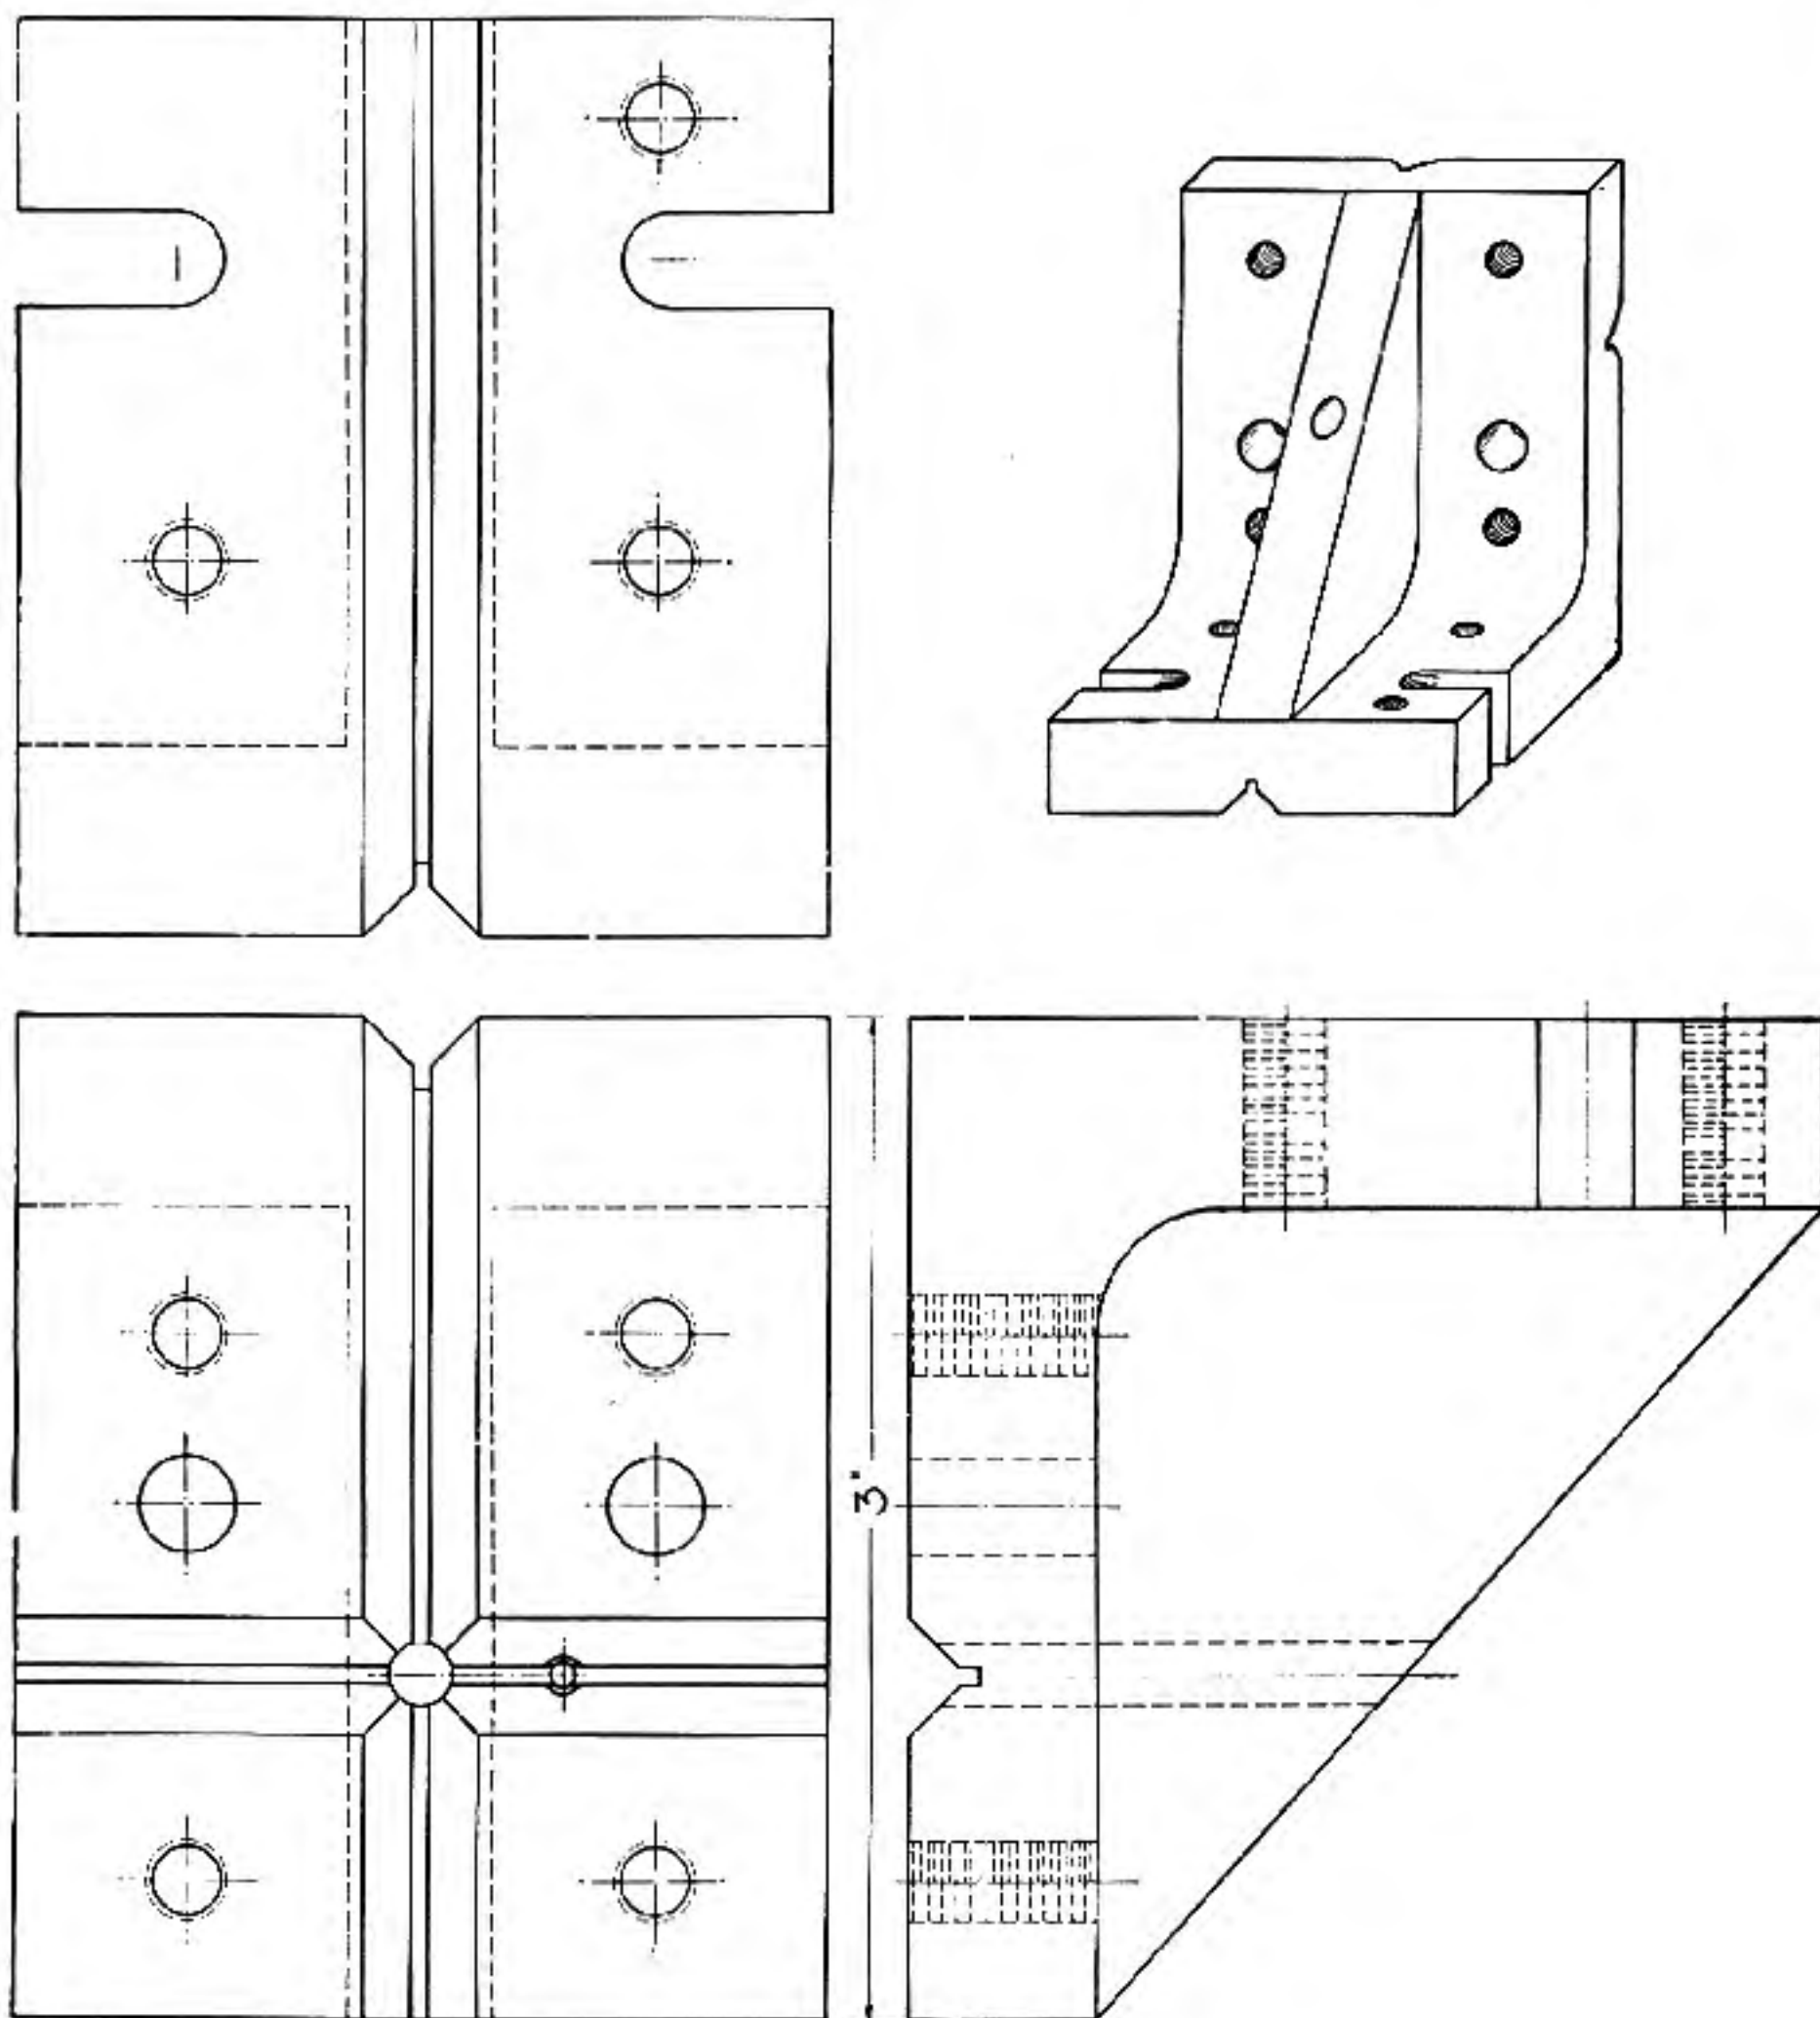

Fig. 1
**Angle Plate**—This is a most useful fixture for clamping parts in laying out work. The most convenient size is one 3 inches in height by  $2\frac{1}{2}$  inches in width. Angle plates can be purchased from hardware or machinery dealers. The best of plates can be made by an advanced student. Figure 1 illustrates an angle plate. It is best to mill the